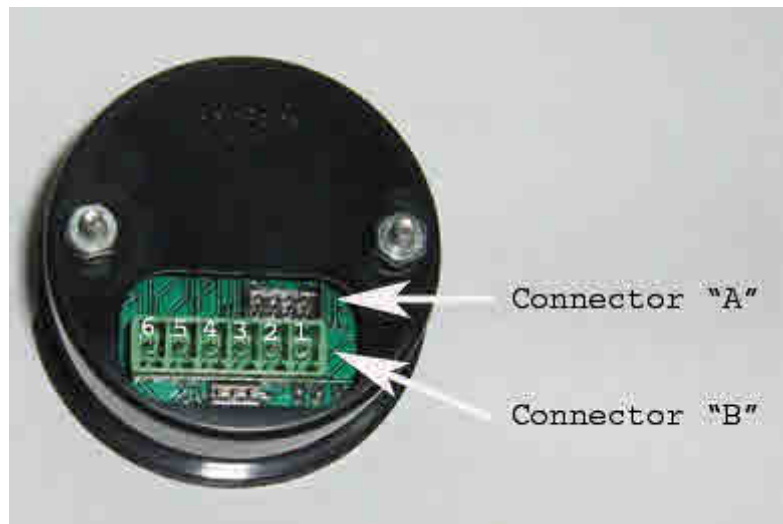

Figure 1
2. **Connect power.** Connect switched 12v (ACC) power to pin 1 of the 6 terminal green connector. See *figure 1* and *chart 1* below. These circuits are commonly known as “accessory” circuits because they are only “hot” when the ignition is turned on. A recommended way of doing this step is to use a product called an “*Add a Circuit*”, made by *Littelfuse*, available at most car parts outlets. These kits, which sell for under \$10, allow you to easily use an existing circuit in the fuse block to power an add-on accessory such as the *Analogic* without the need to cut or splice any wires. Of course, you can also simply splice into an existing 12v switched power wire using traditional methods. Connect ground to pin 2 of the 6 terminal green connector.
3. **Connect sensors.** Connect the 0-5v sensor outputs to the analog inputs (connector A) and EGT outputs to *Analogic* EGT inputs (connector B) if used. See *figure 1*. See *Chart 1* below for pin designations. Press the *Analogic* into the gauge pod or mounting hardware. Follow instructions in step 2.n) (page 7) below to configure the analog inputs.